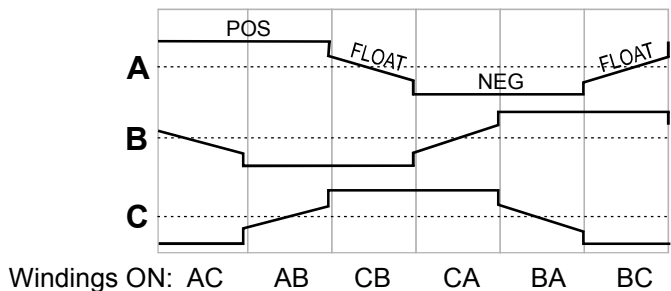

Fig. 3 - Commutation Sequence
The idea is to energize a coil winding positive (POS=N pole) as it approaches a south (S) magnet, and negative (NEG=S pole) as it approaches a north (N) magnet pole to cause the windings and magnets to attract. This sequenced magnetic attraction is what makes the motor rotate. It is the job of the ESC to energize the windings, in the proper sequence and polarity, to produce the motor speed, direction, and power desired. This 6-step sequencing of the windings is called commutation and shown in Fig. 3.
The 8051 microprocessor unit (MPU) on the ESC board converts the PWM motor control signal into the six sets of sequential motor drive signals. Fig. 3 shows that two windings are energized (ON) and one is OFF at any given instant.